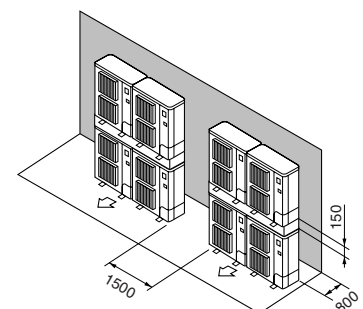

Fig. 2-14
⑦ Stacked unit arrangement (Fig. 2-14)